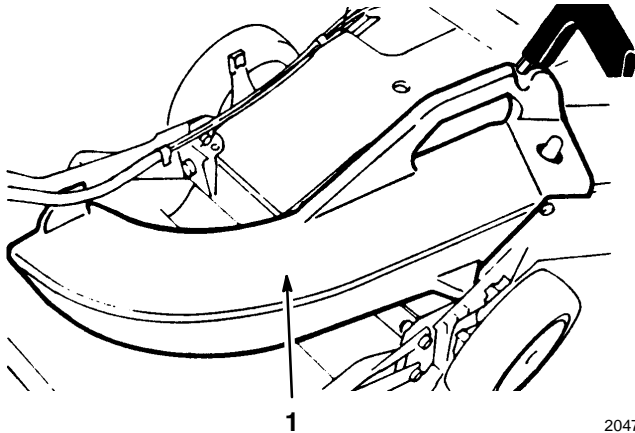

Figure 35
1. **Side Discharge Kit, Model No. 59199**—Installs in seconds. Rear mounted in place of the grass bag or discharge tunnel plug. Disperses clippings while trimming on both sides (Fig. 35).